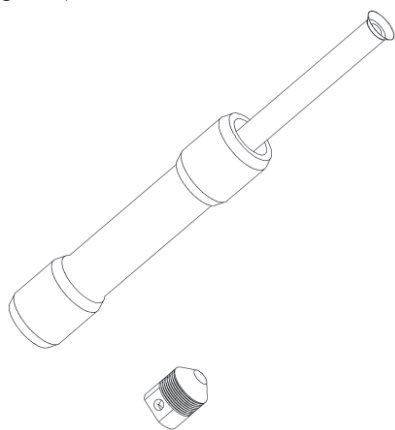

Figure 6
9. Thread the end plug against the fuse's castle end of the fuseholder and tighten to 50-70 inch pounds. (See Figure 6)